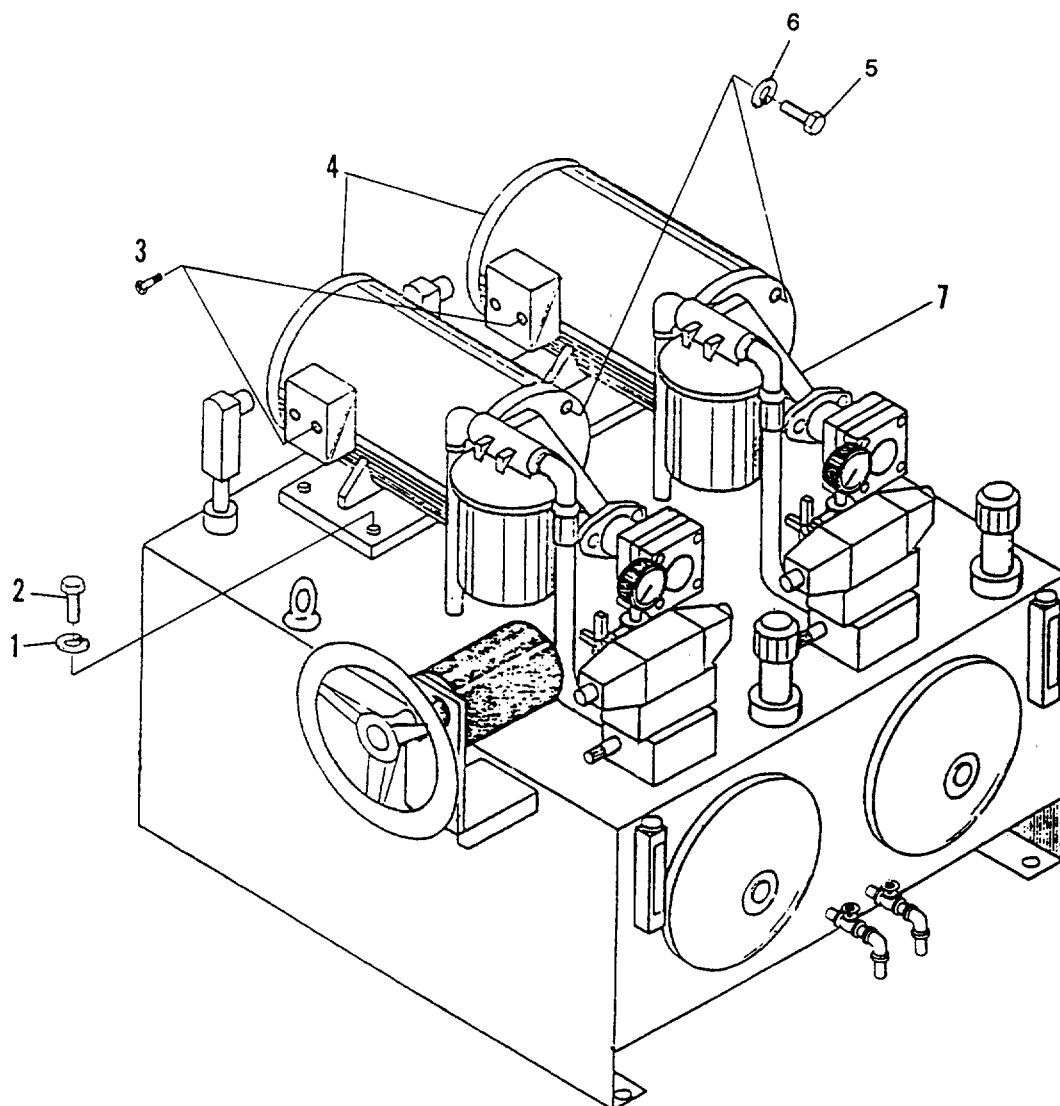

Figure 2-17 Electric Motor
**2-26 Replace Electric Motor (FIGURE 2-17)**